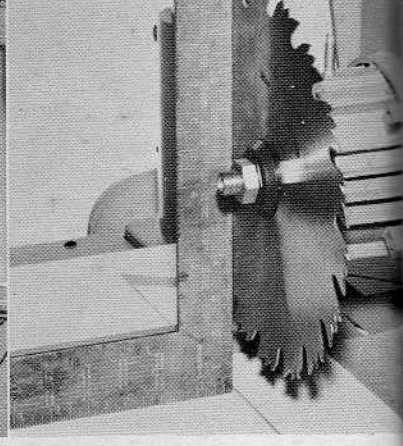

Figure 12
8. ADJUSTING BLADE PERPENDICULAR TO WORK TOP (figures 12 and 13)